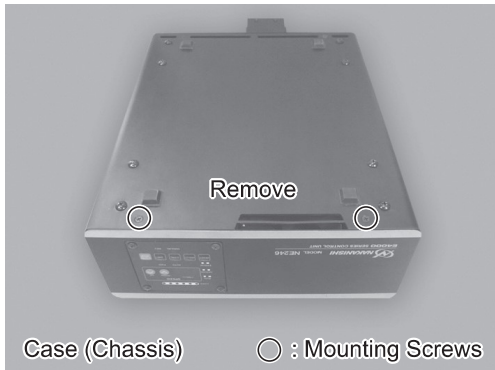

Fig. 39
- (1) Turn OFF the Main Power Switch of the CONTROLLER. Turn OFF the Power supply and Air supply to the CONTROLLER.
- (2) Remove the Mounting Screws (2pcs.) from the Case (Chassis) of the CONTROLLER (Fig. 39).
- (3) Remove the Power Cord Round Terminal from the main power supply terminal.